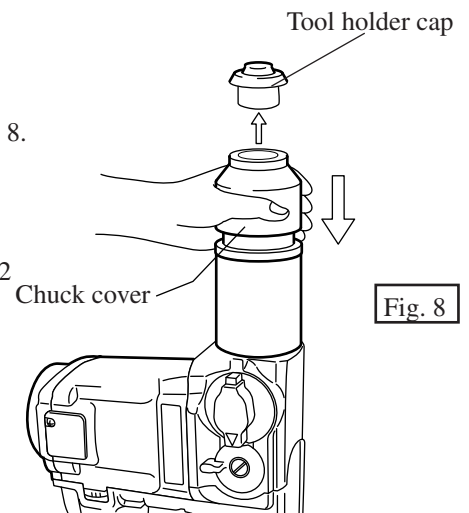

Fig. 8
(1) Pull chuck cover down and take off tool holder cap as illustrated in Fig. 8.